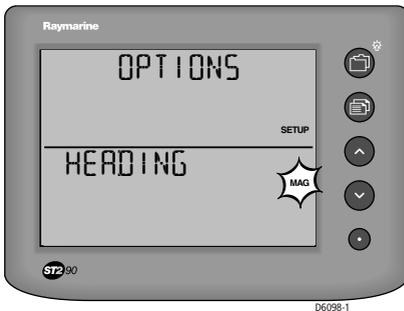

Figure 3-10: Typical OPTIONS setup screen
- HEADING (as in *Figure 3-10*). Select either MAG(netic) or TRUE.